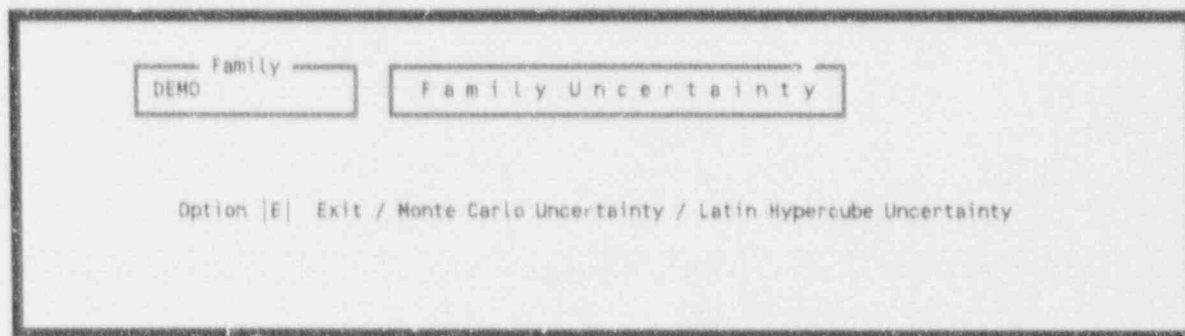

Figure 97. Family uncertainty selection menu.
**4.3.4.5 Family.** To generate an overall uncertainty analysis for all of the sequences within the current family, enter an <F> in the option field. The Family Uncertainty menu will be displayed (Figure 97). From this menu, you select the type of uncertainty analysis to be performed on the family (Monte Carlo or Latin Hypercube).